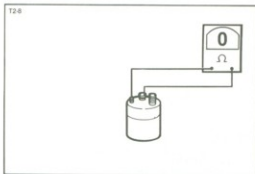

Figure 5-21. Testing Solenoid Pull-In Coil
4. See Figure 5-21. Check the pull-in coil for continuity by touching the ohmmeter probes to the small diameter terminal and to the shorter of the two larger diameter terminals. There should be continuity (less than one ohm approximately .3 ohm resistance).